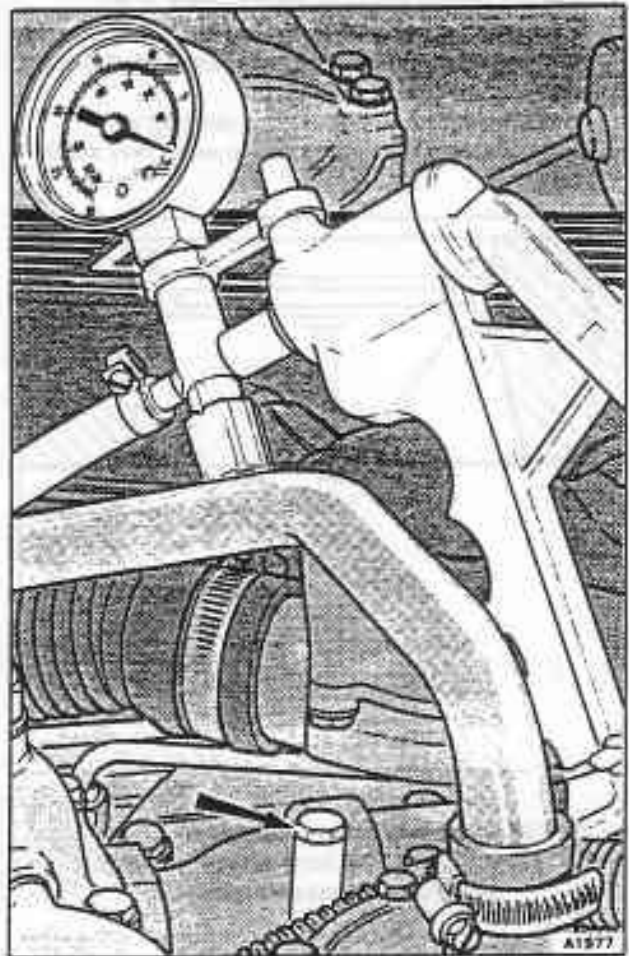

Fig. B3-24 Ignition system manifold vacuum tapping (shown blanked off with 'Mityvac' connected to signal hose)
1. Stop the engine and remove the bridging cable from the throttle position switch. Disconnect the vacuum hose from the ignition system ECU to the induction manifold (see fig. B3-24) and blank off the manifold tapping.